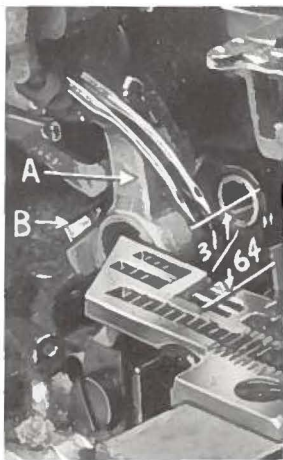

Fig. 4
With throat plate assembled in position, needles should center in the front end of needle slots. When needles are at high position, needle points should be set $31/64$ inch above throat plate (Fig. 4). To align or set the height above the throat plate, move needle driving arm (A, Fig. 4) by loosening clamp screw (B). Remove throat plate, after needle has been set properly and clamp screw (B) has been tightened.